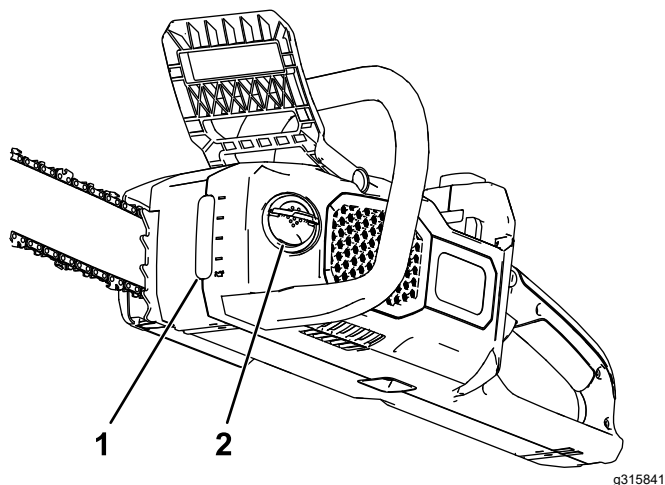

Figure 26
2. Check the oil level in the window. If the oil does not fill the window, add bar and chain oil as needed (Figure 26).
4. Clean the area around the oil cap (Figure 26).
5. Unfold the wing-nut tab on the oil cap tab, remove the cap, and pour bar and chain oil into the chain saw until the oil fills the tank (Figure 26).